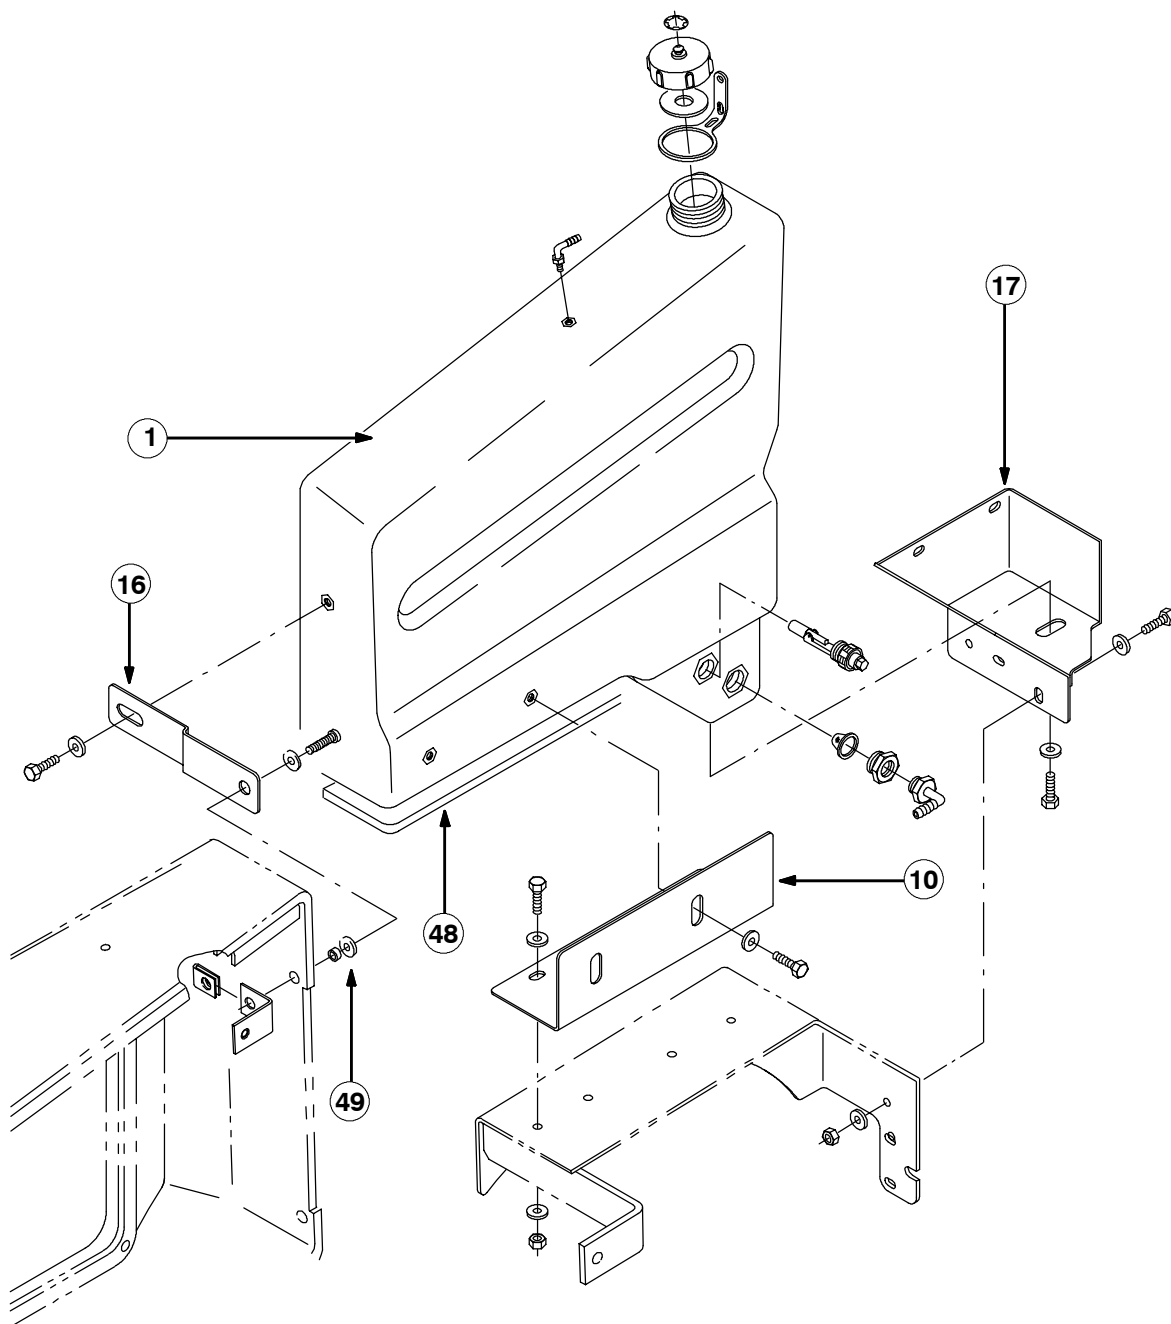

FIG. 1 - WATER TANK INSTALLATION
(Refer to FIG. 1 thru 4)
(Refer to FIG. 1, 2 and 3)
22. Place the water tank (1) up on clean work surface. Secure the tank cap gasket (3) in the tank cap (2). Mount the cap strap (5) to the water tank opening. Secure the tank cap (2) to the cap strap (5) with the retaining ring (4). (Refer to FIG 1)
23. Apply RTV sealant to the small 90° plastic fitting (6). Thread the small 90° plastic fitting (6) into the top of the water tank (1). (Refer to FIG 1)
24. Install the filter strainer (18) and straight fitting (19) in the lower opening of the water tank (1). Seal the straight fitting (19) threads with RTV sealant. Mount the larger 90° fitting (20) in the open end of the straight fitting (19) with RTV sealant. (Refer to FIG 1)
25. Mount the water level switch (35) in the bottom opening of the water tank (1) with RTV sealant. Mount foam spacer (48) to the bottom of the water tank (1) using foam self adhesive. (Refer to FIG 1)
26. Loosely mount the front water tank mounting bracket (10) to the right rear fender of the machine with mounting hardware. (Refer to FIG 1)
27. Loosely mount the rear water tank mounting bracket (17) to the the rear of the right rear fender with mounting hardware. (Refer to FIG 1)
28. Mount water tank (1) to the tank mounting brackets (10, 17) and side panel with mounting hardware, top plate (16) and sleeve (49). Tighten the tank mounting bracket mounting hardware. (Refer to FIG 1)